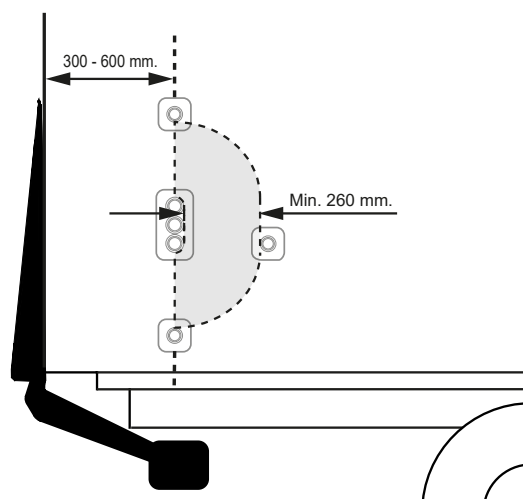

Figure 61. Installing controller CD 1 with two-handed grip.
2. The distance between the vehicle's rear edge and the centre of the controllers must be 300-600 mm. The distance between the controllers must be at least 260 mm. See Figure 61.